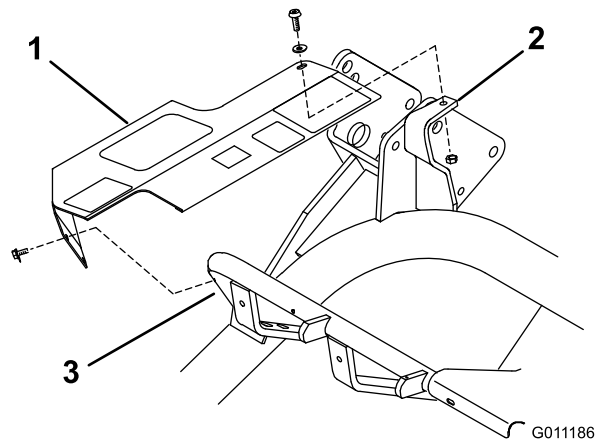

Figure 7
1. Align the cover mounting holes with the holes in the frame tube and mounting bracket (Figure 7).
2. Loosely secure the rear of the cover to the top of the mounting bracket with a socket head screw (1/4 x 3/4 inch), washer (1/4 inch), and a locknut (1/4 inch) (Figure 7).
3. Loosely secure the front of the cover to the frame tube with two self tapping screws (Figure 7). Tighten all of the cover mounting fasteners.